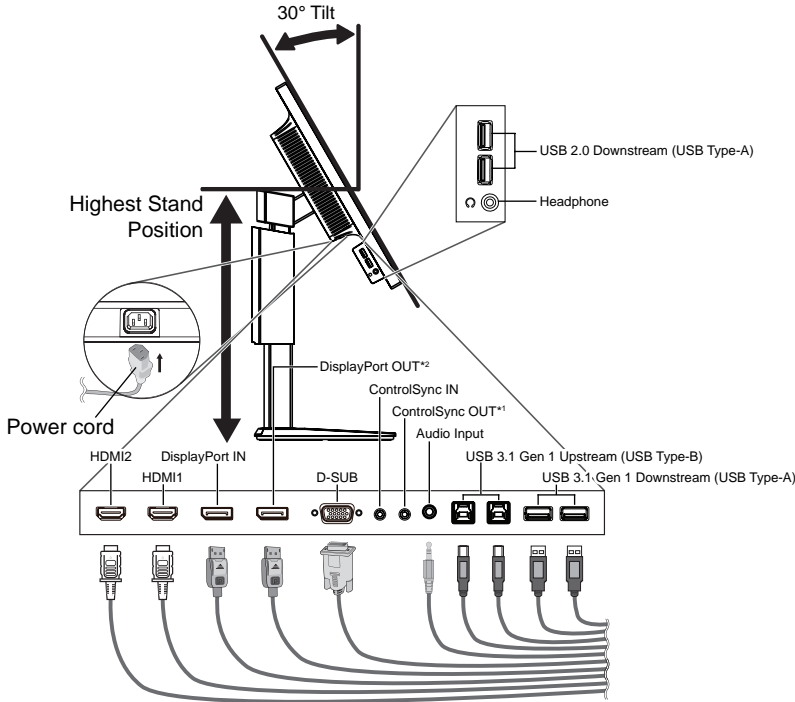

Figure C.1
- Connect all cables to the appropriate connectors (**Figure C.1**). When using the USB cable, connect the B type connector to the USB upstream port on the right back side of the monitor and the A type connector to the downstream port on the computer (**Figure C.1a**). If using the cord from a USB device, plug into the downstream port of the monitor.